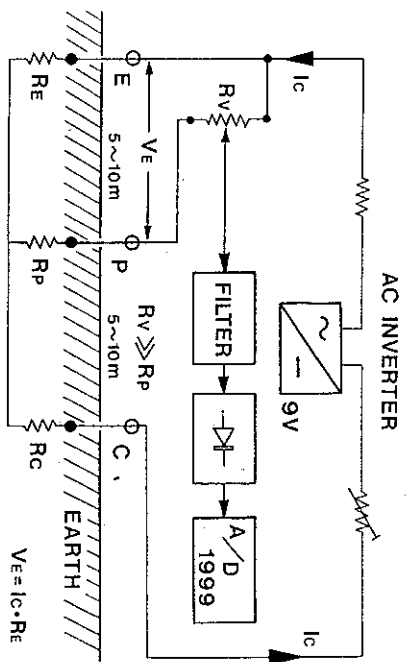

Fig. 2
- 1.1 As in Fig. 2 and 3, establish auxiliary ground rods, P and C, in a straight line at an interval of about 5 ~ 10m.